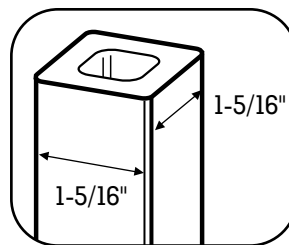

Fig. 28
- Baluster (12' length; approximately 0.81 lb. per ft.) (Fig. 28)